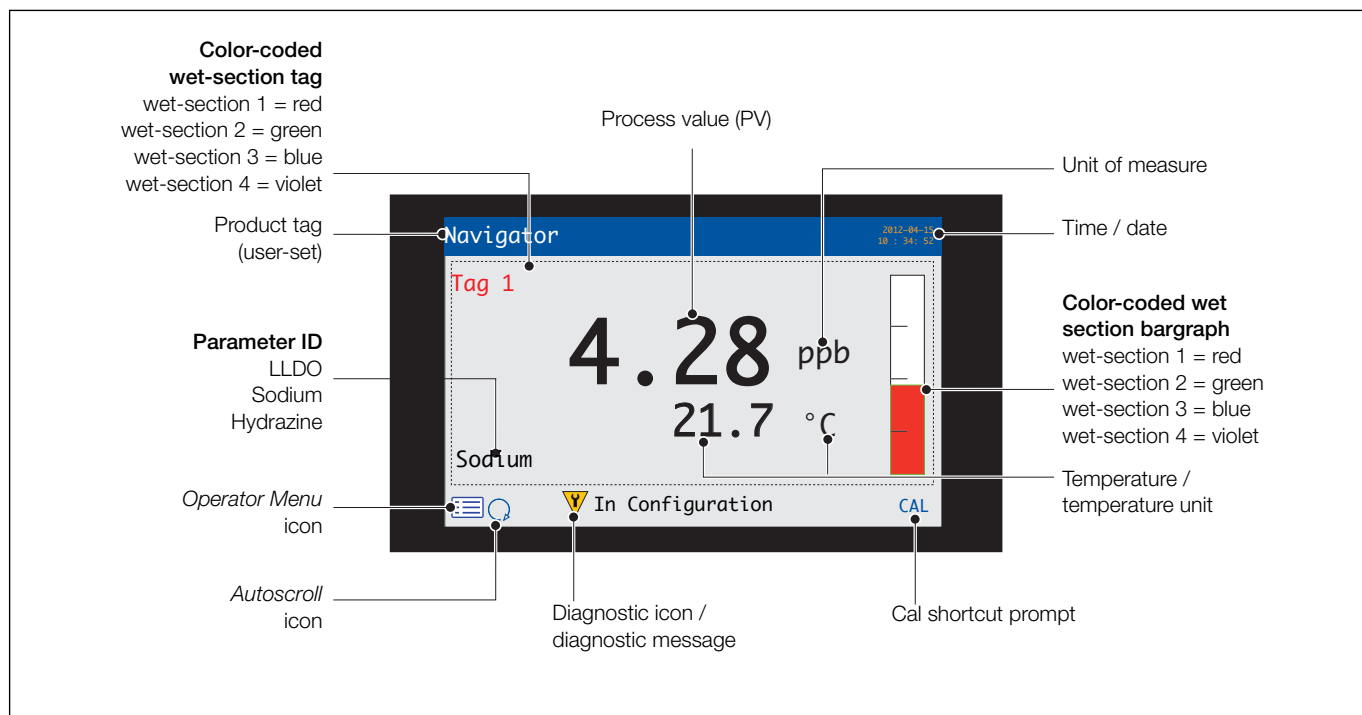

Fig. 6.5 *Operator Pages 2 to 5 – overview*
Fig. 6.5 shows an overview of *Operator Pages 2 to 5*. Each *Operator Page* displays the process value (PV) and temperature from a single wet-section. Fixed, color-coded, user-assignable tags (one for each connected wet-section) and color-coded bargraphs aid identification of each wet-section.